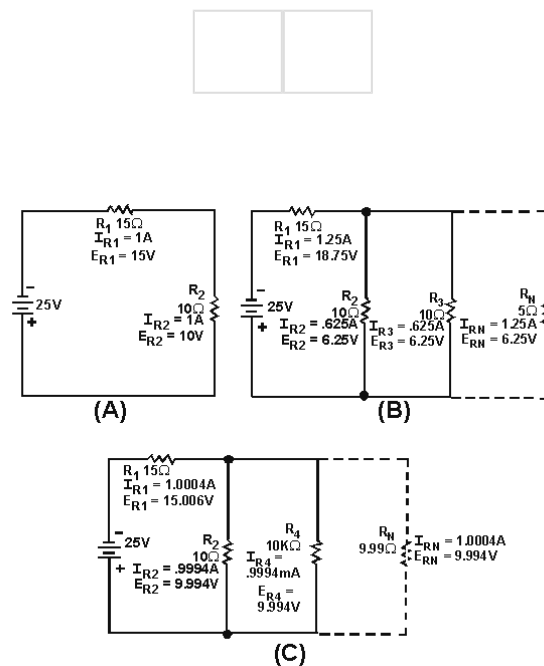

Figure 1-26.—The loading effect.
A voltmeter has an effect on the circuit being measured. This is called **LOADING** the circuit. Figure 1-26 illustrates the loading effect and the way in which the loading effect is kept to a minimum.
In figure 1-26(A), a series circuit is shown with R_1 equaling 15 ohms and R_2 equaling 10 ohms. The voltage across R_2 (E_{R2}) equals 10 volts. If a meter (represented by R_3) with a resistance of 10 ohms is connected in parallel with R_2 , as in figure 1-26(B), the combined resistance of R_2 and R_3 (R_n) is equal to 5 ohms. The voltage across R_2 and R_3 is now 6.25 volts, and that is what the meter will indicate. Notice that the voltage across R_1 and the circuit current have both increased. The addition of the meter (R_3) has loaded the circuit.
In figure 1-26(C), the low-resistance meter (R_3) is replaced by a higher resistance meter (R_4) with a resistance of 10 kilohms. The combined resistance of R_2 and R_4 (R_n) is equal to 9.99 ohms. The voltage across R_2 and R_4 is now 9.99 volts, the value that will be indicated on the meter. This is much closer to the voltage across R_2 , with no meter (R_3 or R_4) in the circuit. Notice that the voltage across R , and the circuit current in figure 1-26(C) are much closer to the values in 1-26(A). The current (I_{R4}) through the meter (R_4) in figure 1-26(C) is also very small compared to the current (I_{R2}) through R_2 . In figure 1-26(C) the meter (R_4) has much less effect on the circuit and does not load the circuit as much. Therefore, a voltmeter should have a high resistance compared to the circuit being measured, to minimize the loading effect.